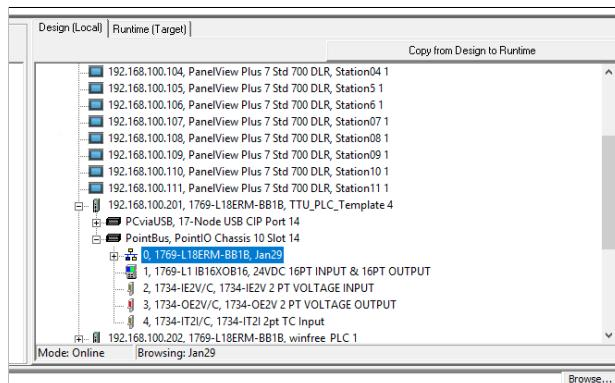

Figure 7: PLC Selection in HMI Communication Setup
In the window that opens, navigate to the PLC associated with your lab seat. **Click the plus beside the PLC associated with your lab seat. Click the plus beside the item named PointBus. Now, highlight the item 0.** Refer to Fig.7 for clarification.
Note 12— In Fig.7 the user was sitting in seat number 1. You most likely will not select the same PLC IP address shown in the image. Refer to Table1 to verify which IP address is associated with your seat.